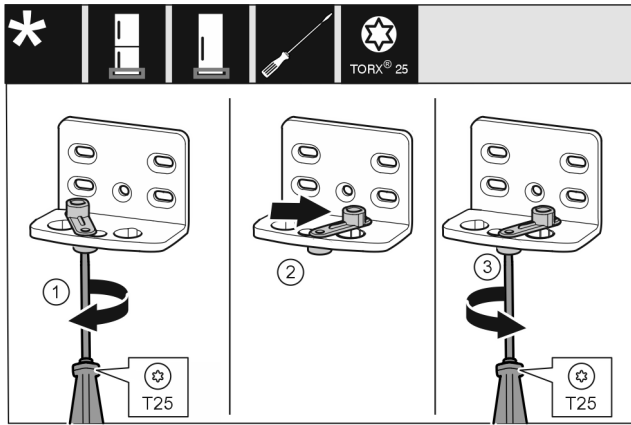

Fig. 13
- Loosen the screw using a T25 screwdriver. Fig. 13 (1)
- Lift the door closing aid and turn it 90° to the right in the hole. Fig. 13 (2)
- Tighten the screw using a T25 screwdriver. Fig. 13 (3)